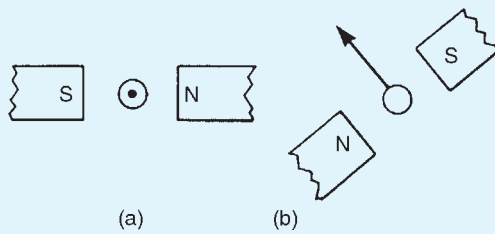

Figure 8.20
- For the current-carrying conductor lying in the magnetic field shown in Fig. 8.20(a), the direction of the force on the conductor is:
- For the current-carrying conductor lying in the magnetic field shown in Fig. 8.20(b), the direction of the current in the conductor is: